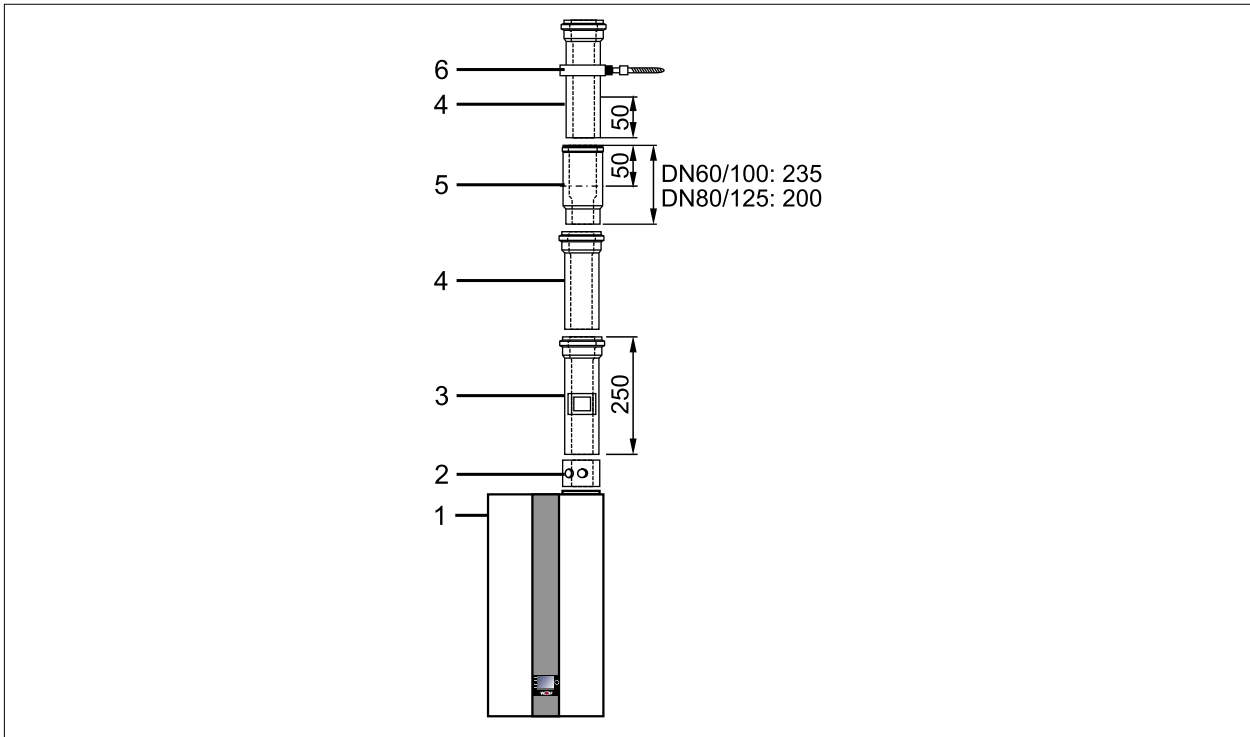

Fig. 5.12 Example: balanced flue [mm]
- ▶ Install appliance connection with flue gas test port (2) (Fig. 5.12) at the connection point of the heat generator (1).
- ▶ Slide the separator (6) (Fig. 5.12) fully into the socket (5).
- ▶ Slide the next balanced flue pipe (4) 50 mm into the socket of the separator (5).
- ▶ Ensure that the balanced flue pipe (4) is fully secured in this position, e.g. with a pipe clamp (6) or with